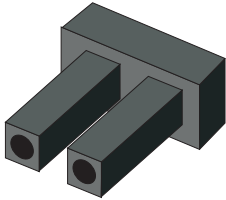

Figure 1-21: Fiber-Optic Protective Plug
- **Fiber-optic protective plug** - For safety and port transceiver protection, fiber-optic protective plugs must be inserted in all port SFPs without fiber-optic cables attached. The switch is shipped with protective plugs installed in all ports. A protective plug is shown in Figure 1-21.